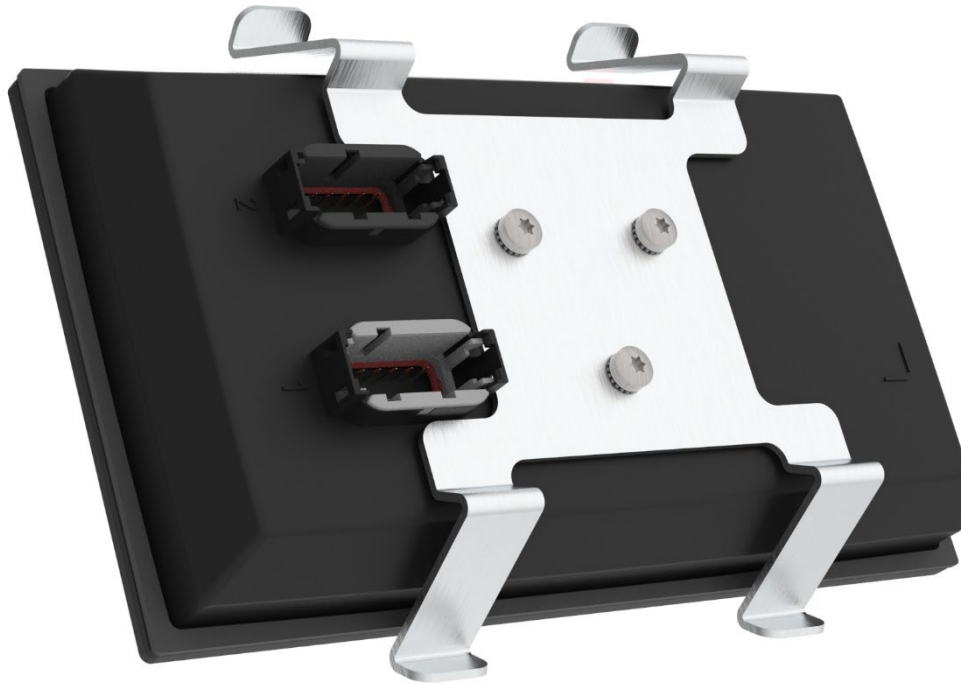

Figure 5: CCpilot V705 mounting bracket.
- The device has a ventilation membrane, refer to Figure 5 for the location. For proper ventilation of the device, dirt and water must be prevented from accumulating and covering the membrane. Be cautious not to insert objects which may puncture the membrane. Doing so will violate the IP-classification and void the warranty of the device.